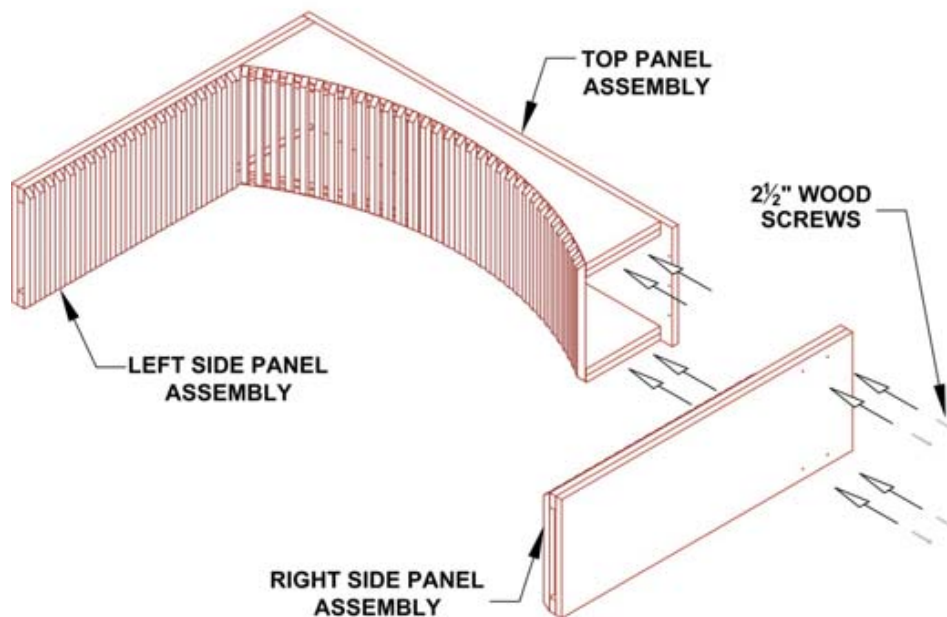

Figure 3
5. Repeat step 3 for the other side panel (**Figure 3**).